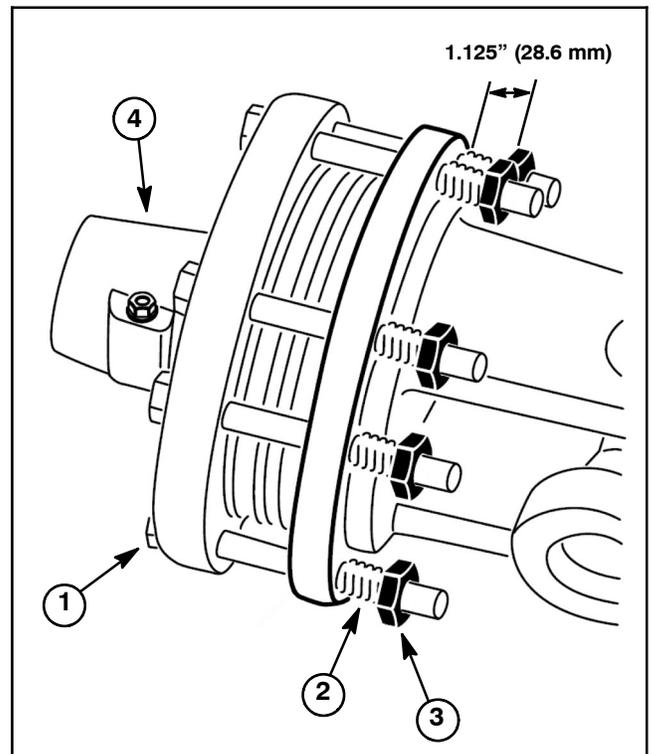

Figure 13
2. Secure clutch components with eight (8) cap screws (item 17), springs (item 15) and nuts (item 25). Tighten nuts so that spring length is 1.125" (28.6 mm) (Fig. 13).